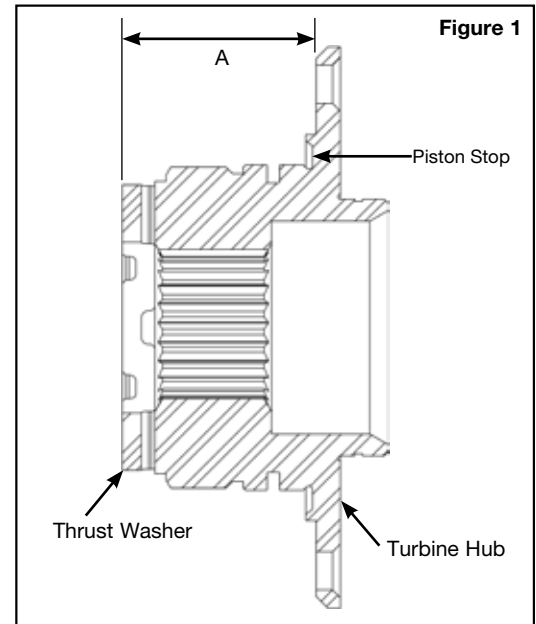

Figure 1
- Measure from the piston stop of the turbine hub to the thrust face of the washer (Measurement "A" in **Figure 1**).